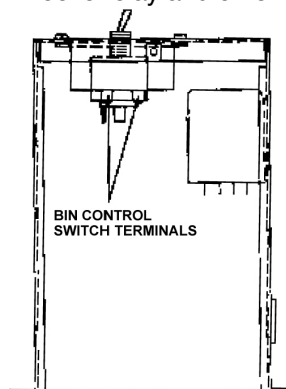

Figure 15. Bin Control Switch
To test the switch, disconnect power to the unit and remove one wire from the switch. Connect both leads of the ohmmeter to the Bin Control Switch terminals. With the control bulb at room temperature ohmmeter should read "Closed Circuit". Refer to Figure 15.
5. Main service switch located on top of the control box. (See Figure 15.)
6. Bin Control (See Figure 15.)